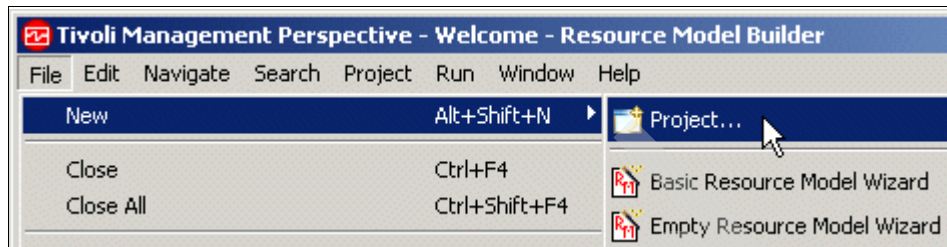

Figure 9-34 Adding a new project
4. Select **File** → **New** → **Project...** as shown in Figure 9-34.